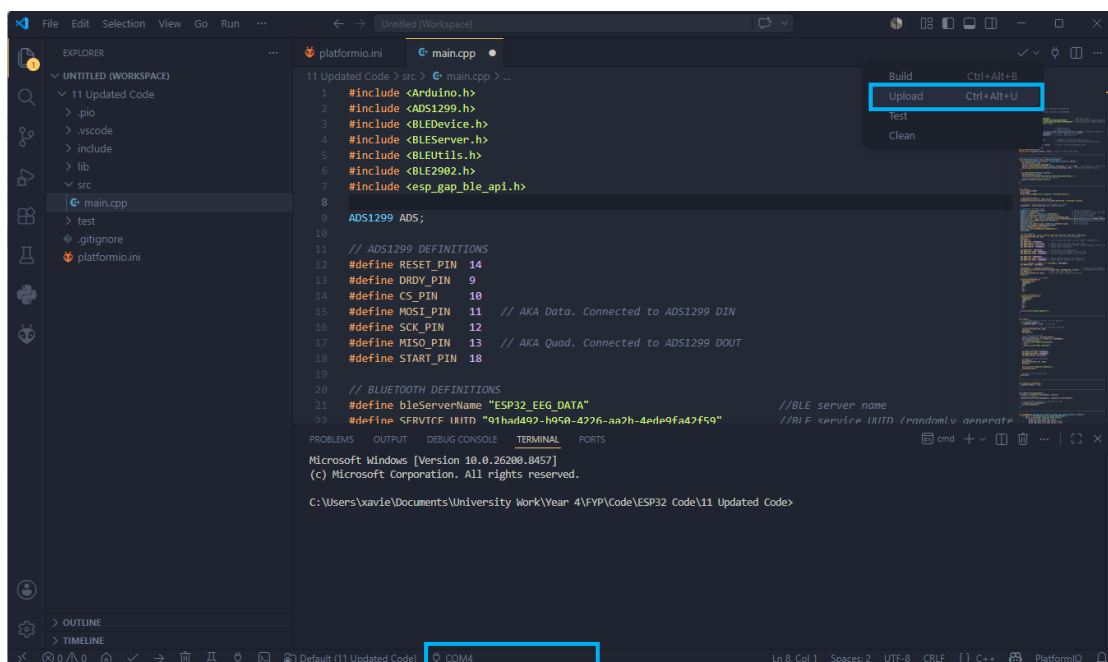

Figure 2: Platformio upload button
6. Connect the module to the computer using the USB-C port, and upload the code, as shown in Figure 2. Ensure the correct COM port has been selected, and that the board power switch is set to USB power, as opposed to battery power.
- Upload code as shown in Figure 2.